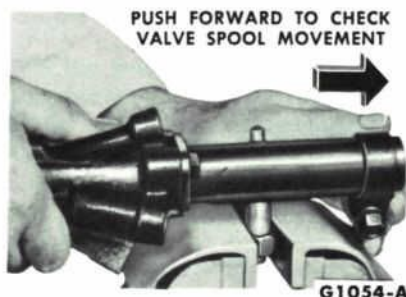

FIG. 37—Valve Spool Movement
10. Install the nut on the ball stud so that the valve can be positioned in a vise as shown in Fig. 37. Push forward on the cap end of the valve to check the valve spool for free movement. Turn the valve around in the vise, and push forward on the sleeve end to check the spool for free movement.